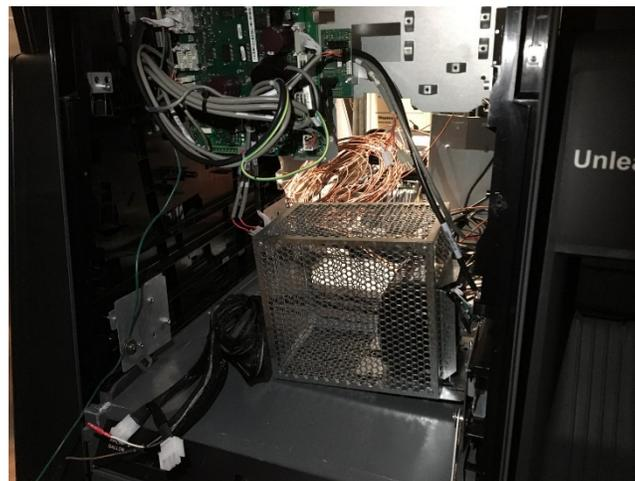

Figure 202
14) Position heater along bottom dispenser wall like shown. See Figure 202 below.